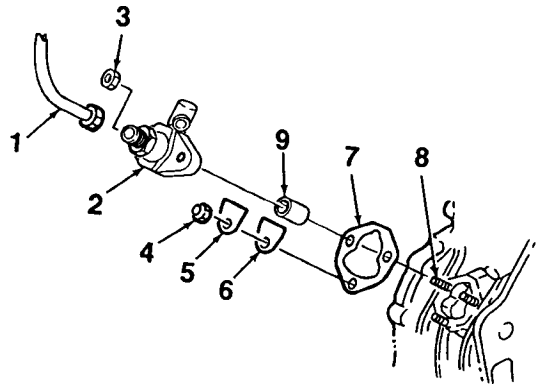

Figure 4-11. Fuel Injection Pump Removal
Shims, Timing (Item 7, Figure 4-11), as required
1. Disconnect fuel pipe (1, Figure 4-11) from fuelinjection pump (2).
2. Remove nut (4), inspection cover (5), and gasket (6) from lower pump stud (8).
3. Remove fuel injection pump (2) from pump studs (8) by removing two nuts (3). Remove shim(s) (7). Note number of shims utilized.
4. Remove fuel tappet (9) from engine crankcase.